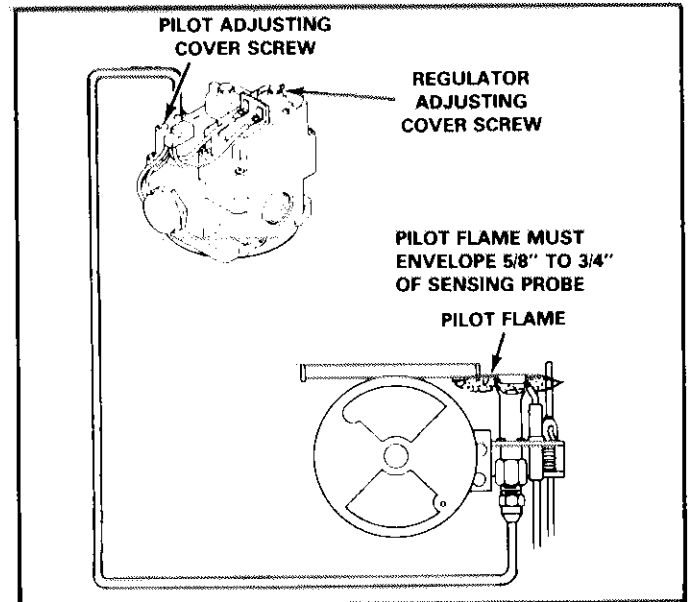

FIGURE 4
- 5 - Electrode should spark and light pilot gas. The pilot flame should play on the electrode rod and cause sparking to stop. After the pilot flame has played on mercury bulb for approximately 45 seconds the bulb should become sufficiently heated to switch on main burner. See Figures 4 and 5.